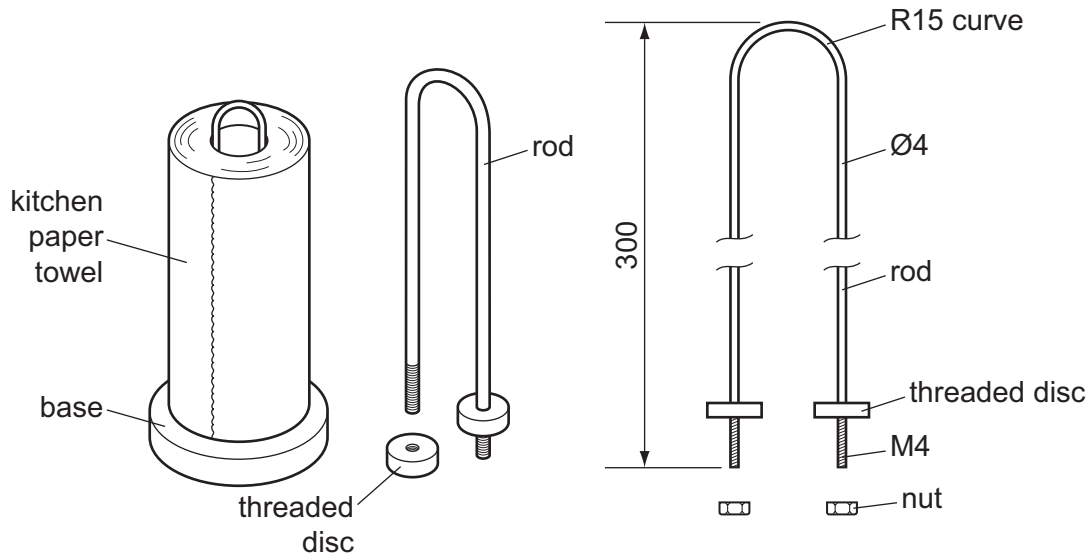

Fig. 11
13 Fig. 11 shows details of a kitchen roll holder.
- (c) Use sketches and notes to show a bending jig that could be used when bending the R15 curve shown in Fig. 11.